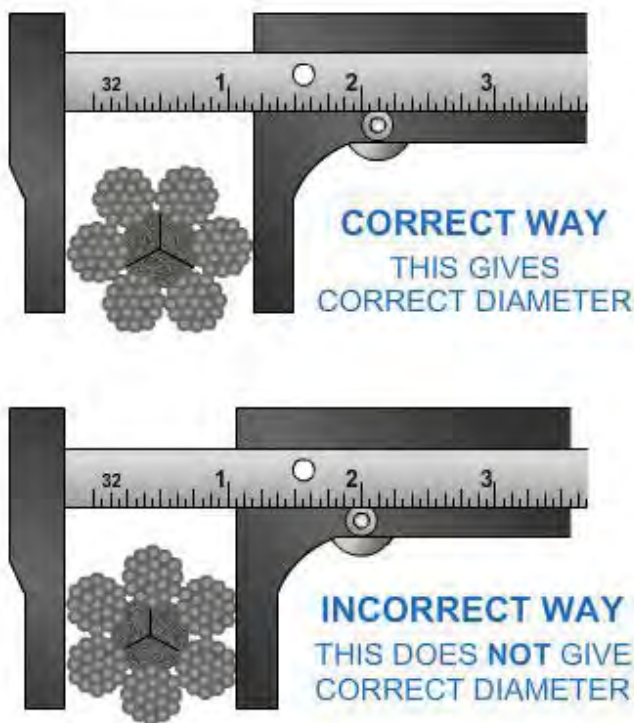

Figure 22-18 — Correct and incorrect methods of measuring wire rope.
Wire rope is designated by its diameter in inches, as shown in *Figure 22-18*. The correct method of measuring the wire rope is to measure from the top of one strand to the top of the strand directly opposite it. Measuring across two side by side strands is not correct.
- A. Reduction of nominal rope diameter due to loss of core support or internal or external corrosion or wear of individual outside wires. The diameter shall be measured in a circumscribing circle in six or more places on the wire rope, as shown in *Figure 22-18*.